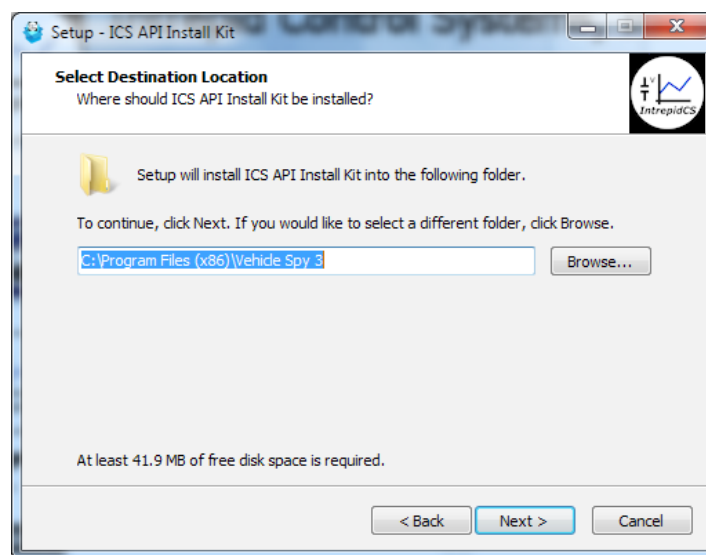

Figure 36: Choosing the API Kit Destination Location.
7. **Select Destination Location:** Choose where you want to install Vehicle Spy 3 (Figure 36). We normally recommend keeping the default location. Click .